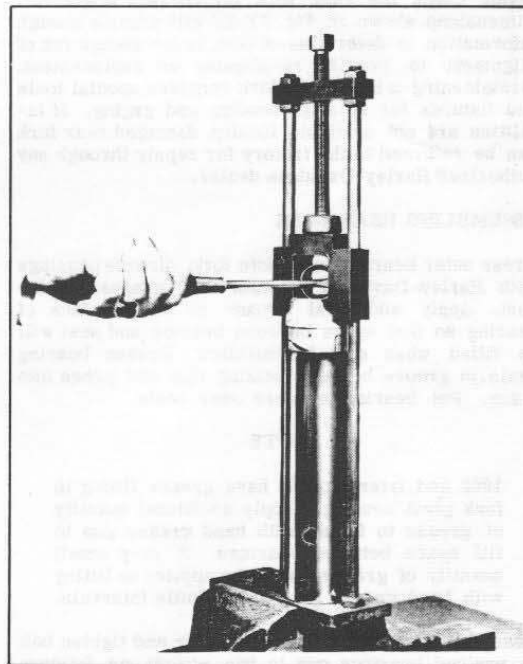

Figure 2F-19. Disassembling Shock Absorber (1966 & Earlier Shown)
1967 AND LATER (FIG. 2F-18A)
Apply a thin coat of grease to all surfaces of both cams. Note that cams (12) are identical and be sure to position cam lobes correctly as shown in Fig. 2F-18A inset. Place assembly in compressor tool and compress spring enough to install key halves (6). Release spring compression. Keys will lock into place in inside diameter of covers 7 or 7A. Install retaining ring (5).